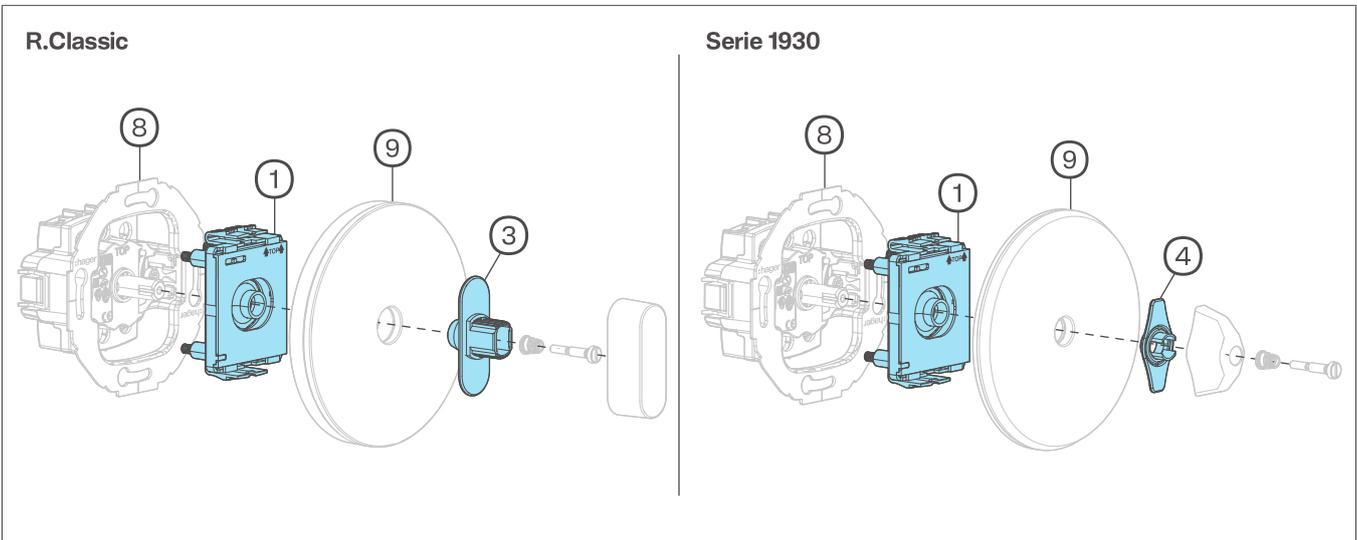

Fig. 2: Final installation for R.classic/Serie 1930
**The light conductor (3) is attached directly to the LED module.**
- 💡 – Pay attention to the assembly sequence (Fig. 2). Install the cover plate (9) first and then the light conductor (3).